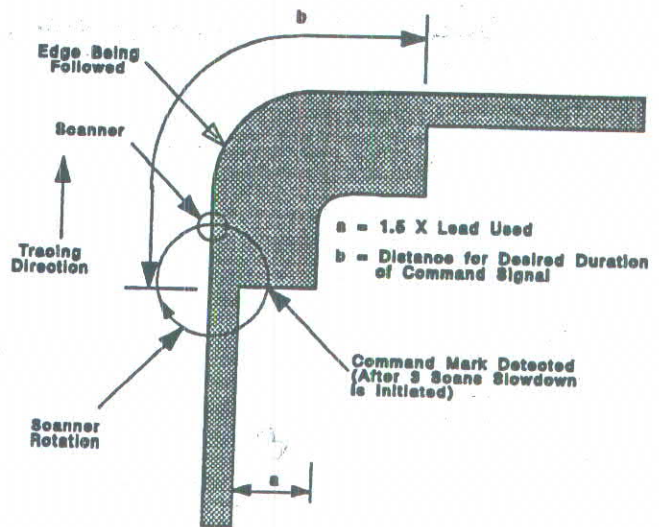

Figure 3-8 Command Marks For Corner Slowdown.
2. The width of the Command mark, dimension 'a' in Figure 3-8, should be at least 1-1/2 times the lead used, without any gap between it, and the pattern line.
Command marks are detected at 90° after line interception. When drawing Command marks, the dimensional information given in Figure 3-8 should be closely followed, noting these points: